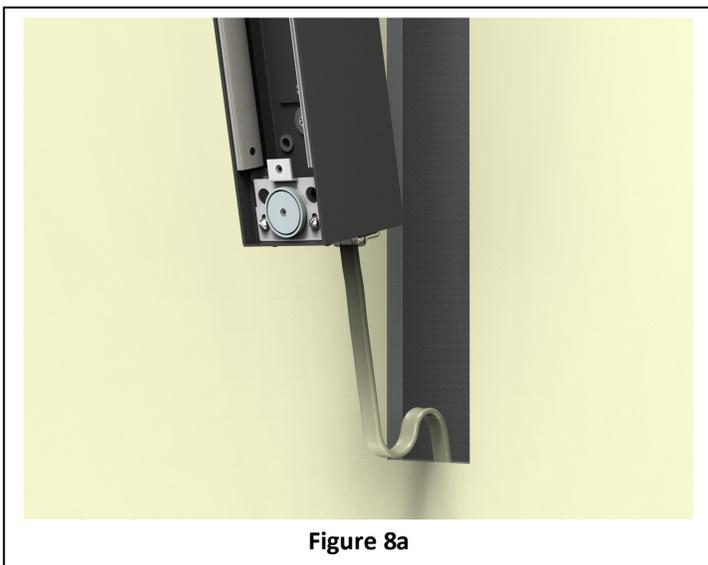

Figure 8a
Step 10. For optimal heat dissipation, carefully insert fixture into wall opening with Romex connector on the bottom end. (Figs. 8a & 8b)